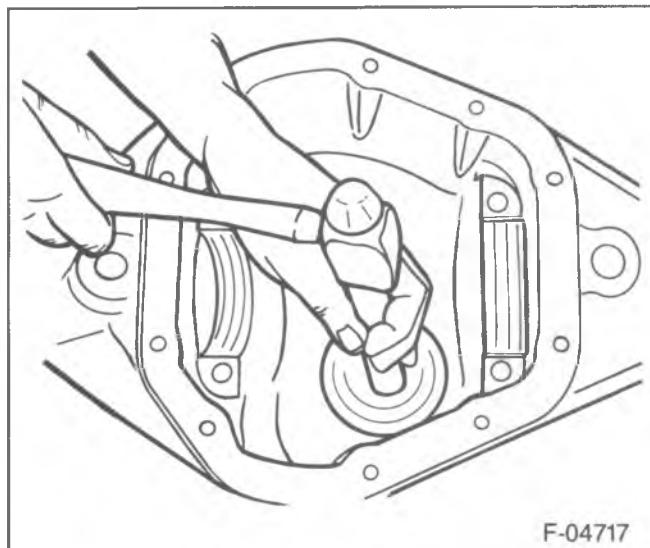

Figure 53—Installing the Pinion Inner Cup
2. Drive the inner bearing cup into the axle assembly using D-111 and C-4171. The cup must be seated on the shims (figure 53).